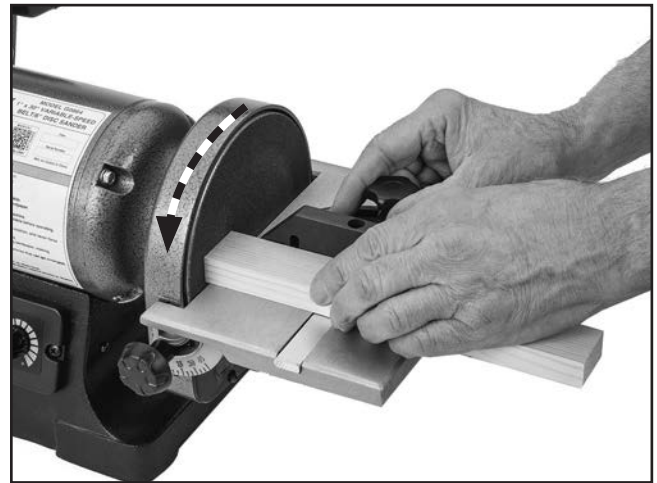

Figure 14. Example of end-grain sanding.
Move the workpiece slowly back and forth along the *downward* moving side of the sanding disc, as shown in **Figure 14**, and avoid using excessive pressure to prevent burning the workpiece and overloading the sanding discs.
6. With moderate pressure, push workpiece into downward moving side of rotating disc (see **Figures 14–16** for examples of disc sanding).